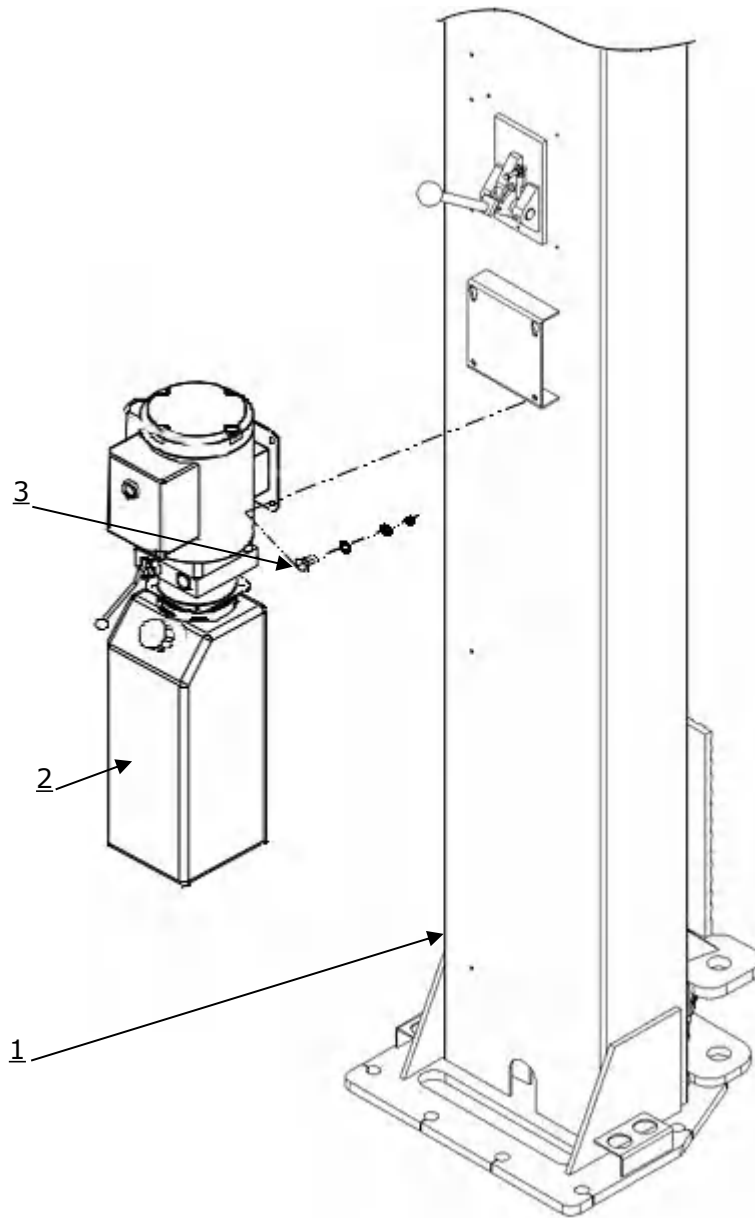

Fig. 34
L. Install power unit (See Fig. 34)